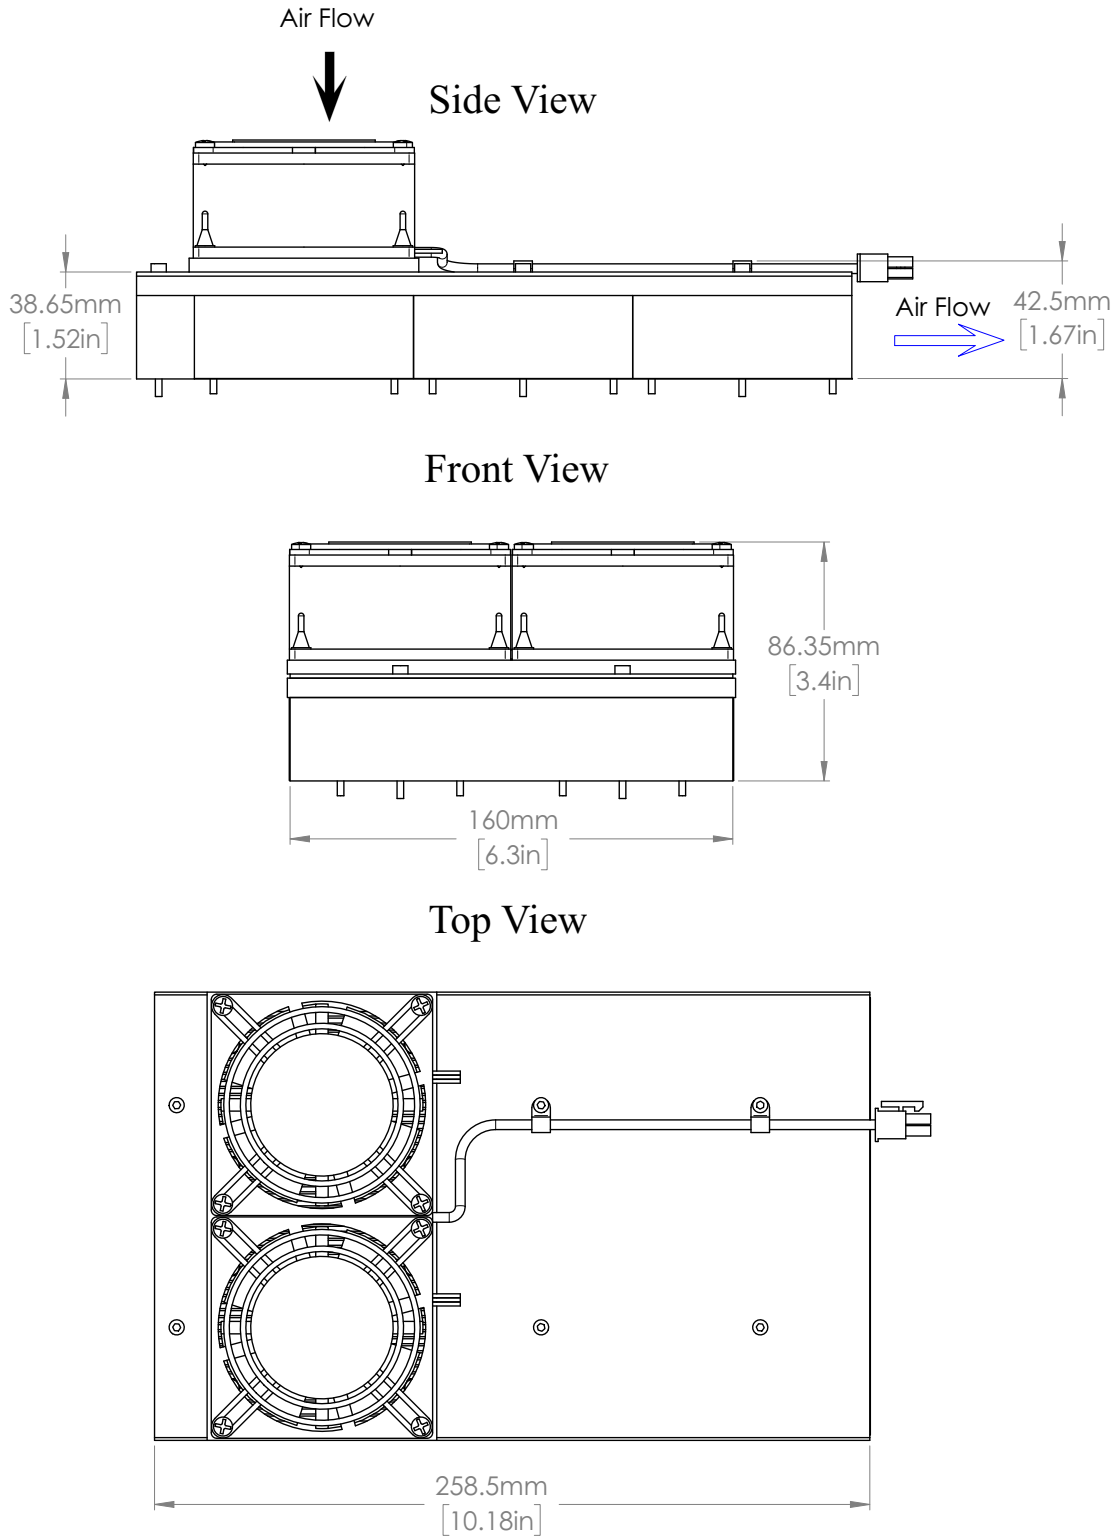

Figure 3-3. Matrix Fan Assembly
- Air-Cooling Assembly, see Figure 3-3 (p. 29)